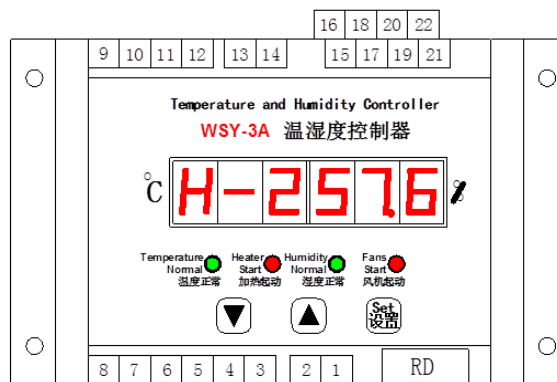

Figure 6
- Continuing to press the settings button, the left three digit digital display flashes H-2, indicating the communication baud rate setting value. The right three digit digital display is the numerical value, with five options for setting values: 4.8, 9.6, 19.2, 38.4, and 57.6, which can be set through "^" and "V" (see Figure 6).